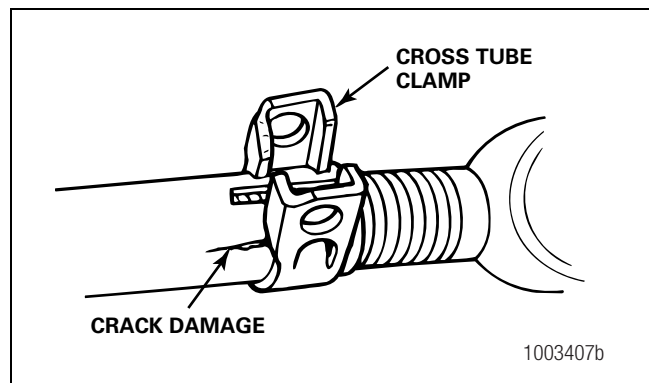

Figure 10.16
12. Inspect the cross tube and clamps for damage. Figure 10.16.